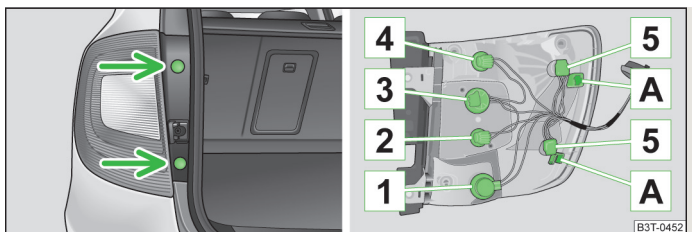

Fig. 194 Installing a tail light (Combi)
Overview of the location of the bulbs » Fig. 194.
- Remove the plug » Fig. 194 and unscrew the tail light with a torx wrench » page 203, *Vehicle tool kit*.
- To re-install the tail light, first of all guide it with the openings **A** » Fig. 194 on to the bolts on the bodywork.